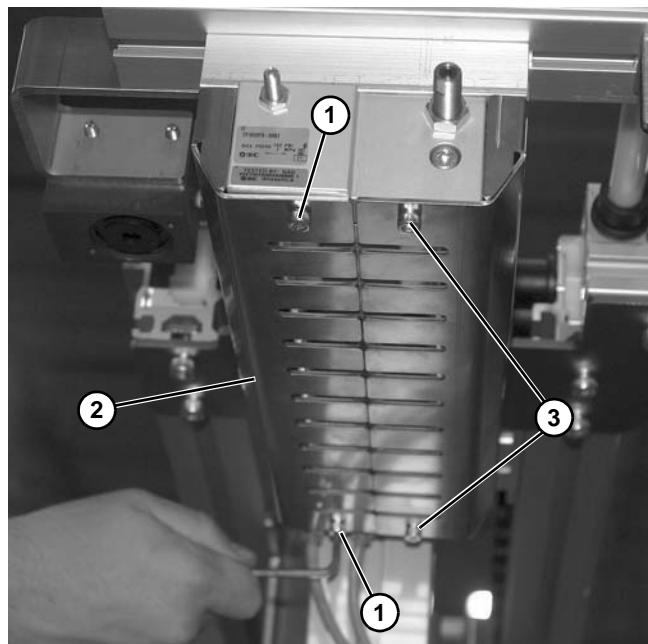
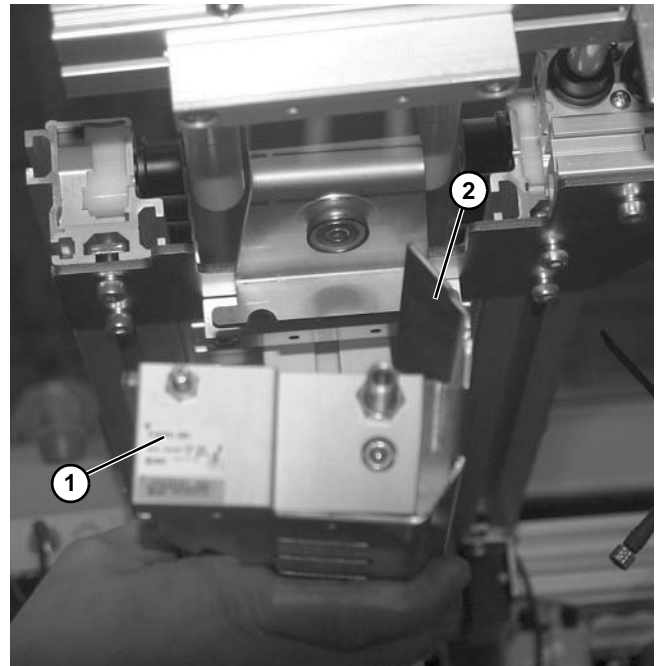

Figure 157
Figure 158
2. Remove screw (Figure 157, item 1) on both ends and remove cover (Figure 157, item 2).
3. Remove two remaining screws (Figure 157, item 3), and lower cylinder (Figure 158, item 1) and second cover (Figure 158, item 2) from conveyor.